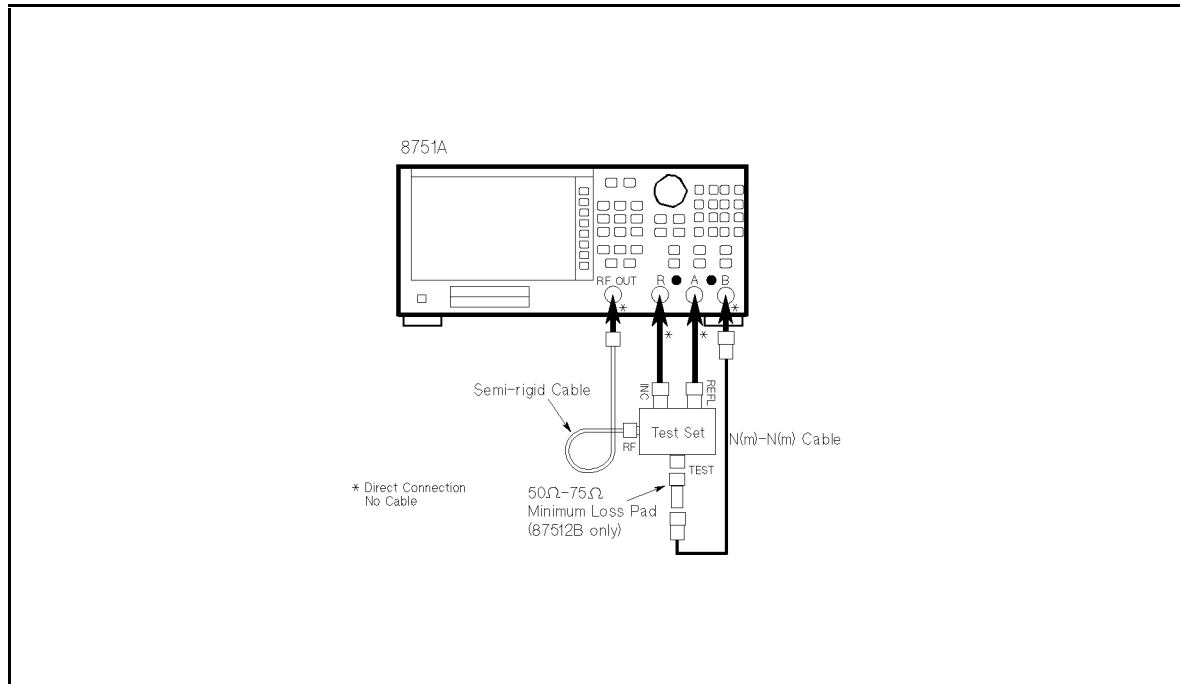

Figure 4-1. Insertion Loss Test Setup With an 8751A
4. Connect the 87512A/B as shown in Figure 4-1.